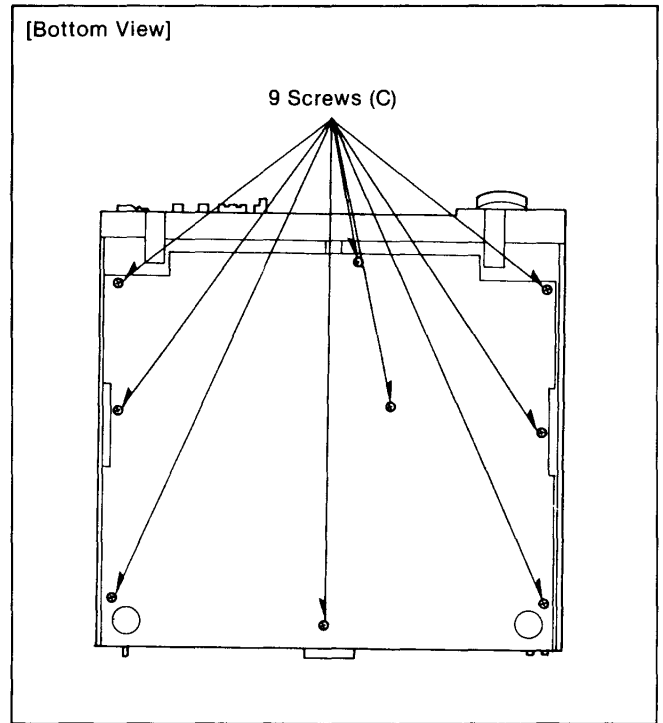

Figure D4
1. Unscrew the 9 screws (C) on the Bottom Plate (Figure D4).